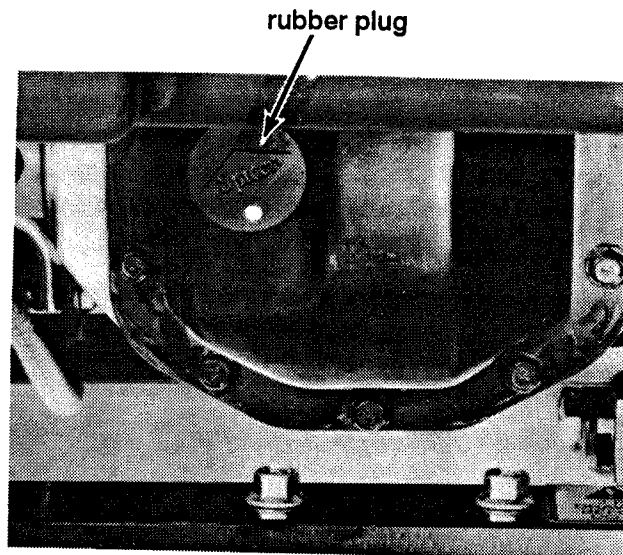

Figure 21. Differential.
The differential should be lubricated every 100 hours of tractor use. It is located at the rear of the tractor, under the fuel tank. (Refer to Figure 21). To lubricate the differential:
1. Clean the exposed area of the rubber plug (Refer to Figure 21) and clean the area around the plug.